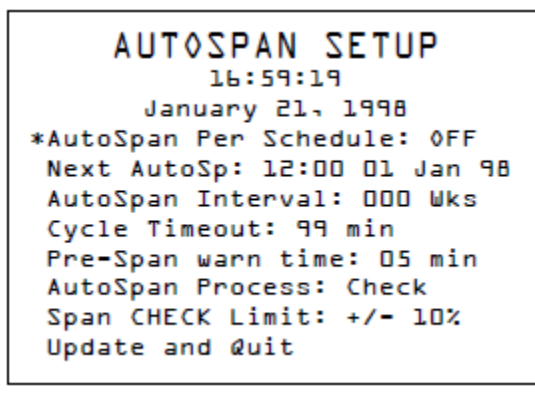

Figure 30: AutoSpan Check Screen
**AutoSpan Process** - Choose whether the system performs a span check or complete recalibration. If the span check mode is selected the screen will appear as in Figure 30. Note the additional line for Span Check Limit. This value is adjustable and expressed as a percent of the entered span gas value. It is recommended not to use limits of less than +/- 10% of the span gas value. When